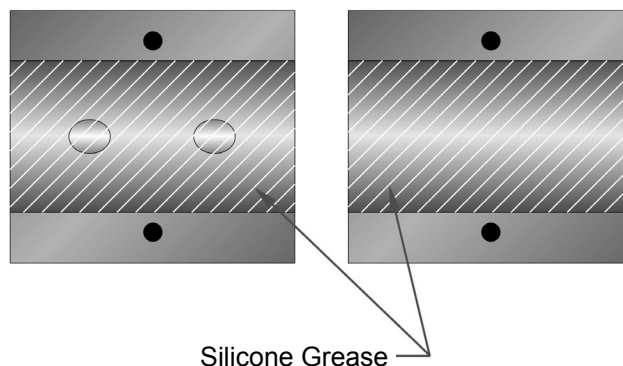

Figure 2.6
1. Apply a thin coating of silicone grease to both halves of the transducer housing where the housing will contact the pipe. See **Figure 2.6**.